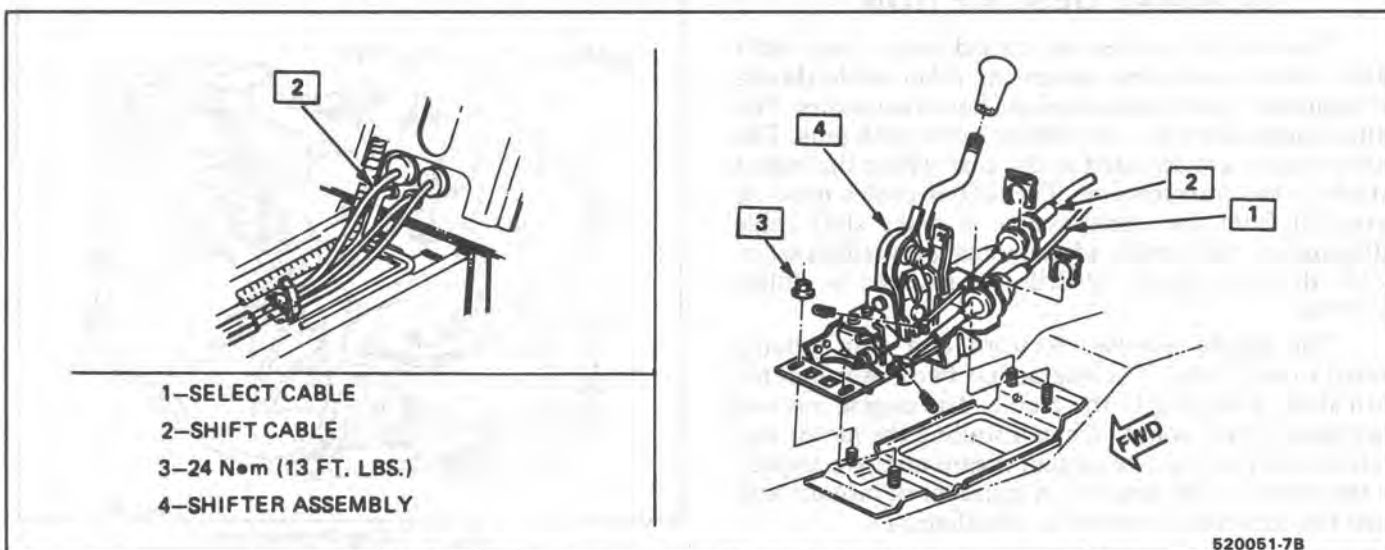

Fig. 3 Shift Cable &amp; Select Cable Routing and Cable Attachment at Shifter
**SHIFTER ASSEMBLY****↔ Remove or Disconnect****Figure 3**